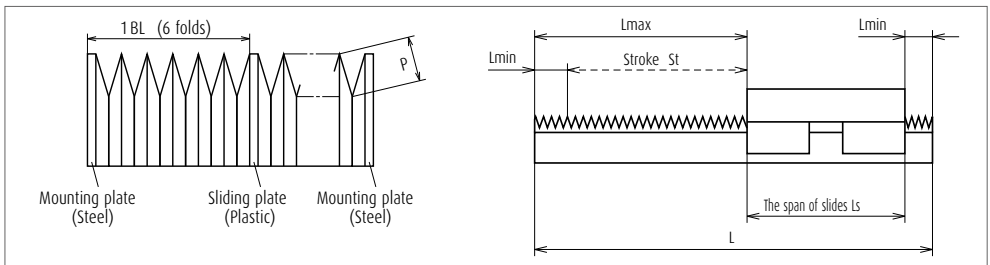

Fig. 7.10
- ▶ Bellows fastener is available only for the horizontal mounting positions. For other mounting positions, sliding plate is required (see **Fig. 7.10** on page A56.)
- > A bellows forms one block (BL) with six folds as shown in Fig. 7.10. The stroke is determined by multiplying by an integer of this BL.